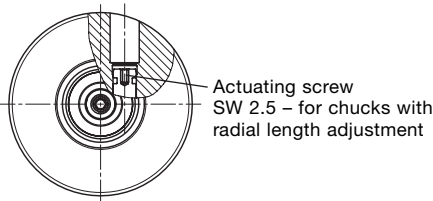
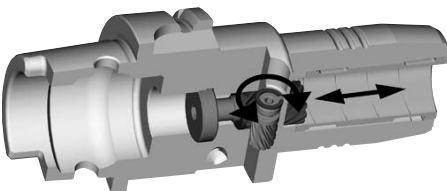

Fig. 3
Fig. 4
- The length adjustment screw is adjusted via the actuating screw using the socket wrench provided (see Fig. 3, Section B - B and Fig. 4).